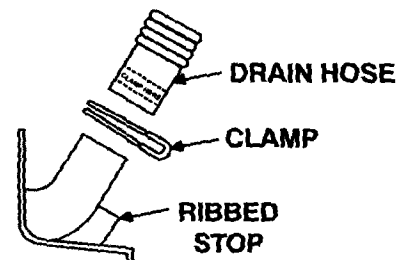
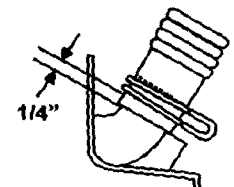

Fig. 10
Fig. 11
- Push the other end of the drain hose down over the drain hose connector on the back of the washer all the way down to the ribbed stop. (Fig. 10) Secure with the clamp at the position shown in Figure 11.